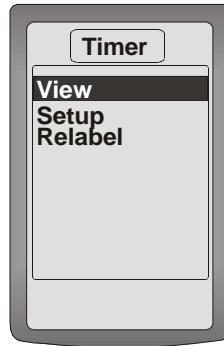

Figure 4-3: The timer menu
1. From the timer menu (*Figure 4-3*) scroll to Relabel and press enter. The following screen appears: